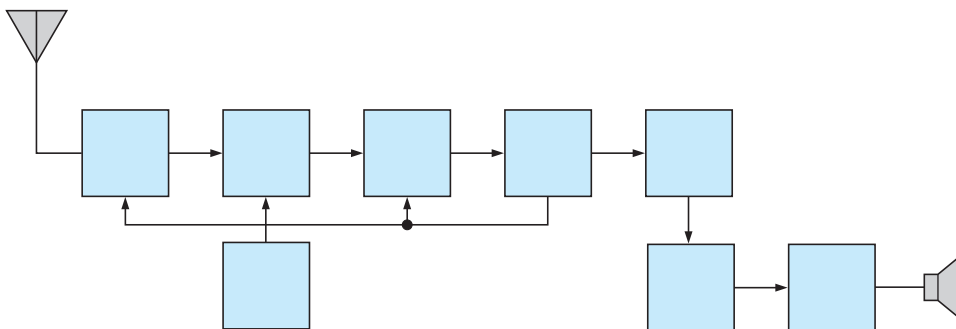

FIGURE 13-51
2. Label each block in the FM receiver in Figure 13-51.